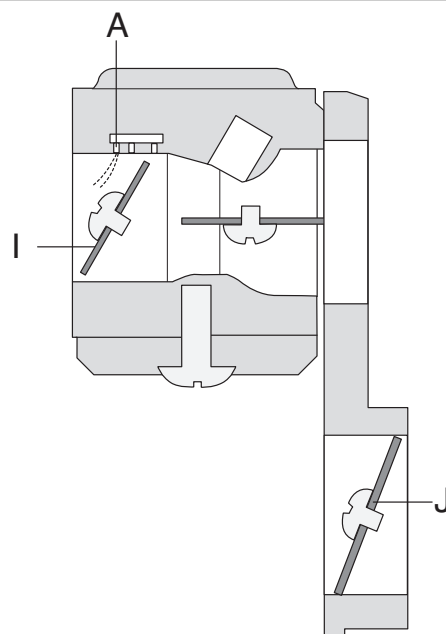

Fig. 5
4. The oil pump drive's worm gear (A) should be undamaged. See fig. 5.
5. The oil pipe (D) should be free from impurities and the filter clean.
In the idling mode (fig. 5) the throttle valve (I and J) is closed.